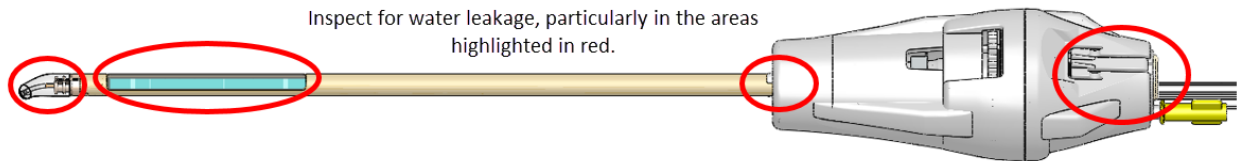

Figure 20: Areas to inspect for water leaks in the UA
7. **Urologist:** Closely inspect the UA along the length of the shaft for any water leakage, paying attention to the areas of interest shown in *Figure 20*. If you see water, the UA is defective and must not be used.